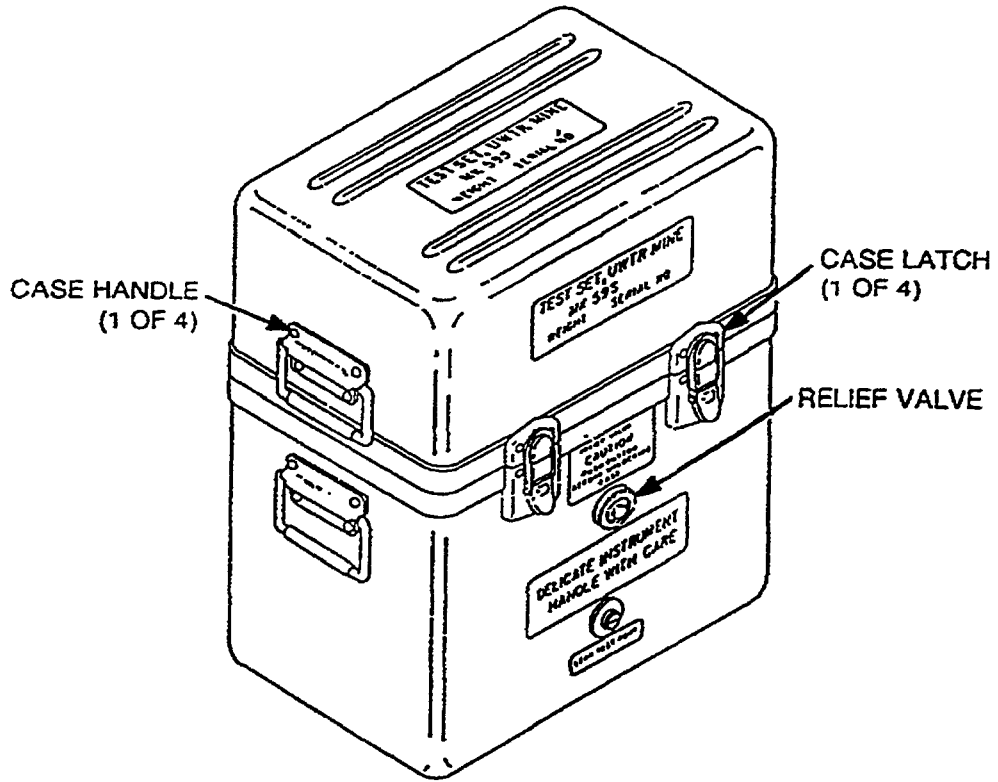

Figure D-6. Test Set, Mk 595
1. The procedures in this job sheet will be performed at the end of the work day or completion of use of the test set, prior to placing the test set (Figure D-6) in storage or prior to shipment of the test set.